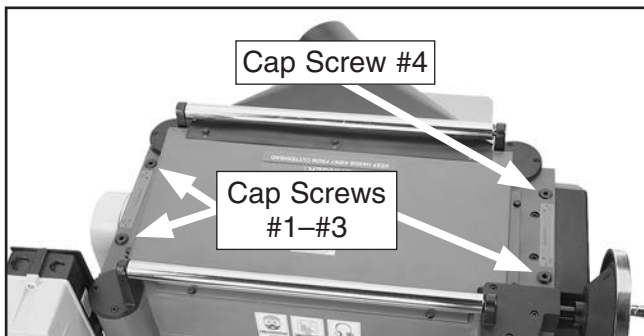

Figure 48. Roller spring tension adjustment cap screws.
2. Adjust tension cap screws #1–#3 so that they protrude 1/8" above the head casting, and adjust cap screw #4 so that it protrudes 5/16" above the head casting (see **Figure 48**).